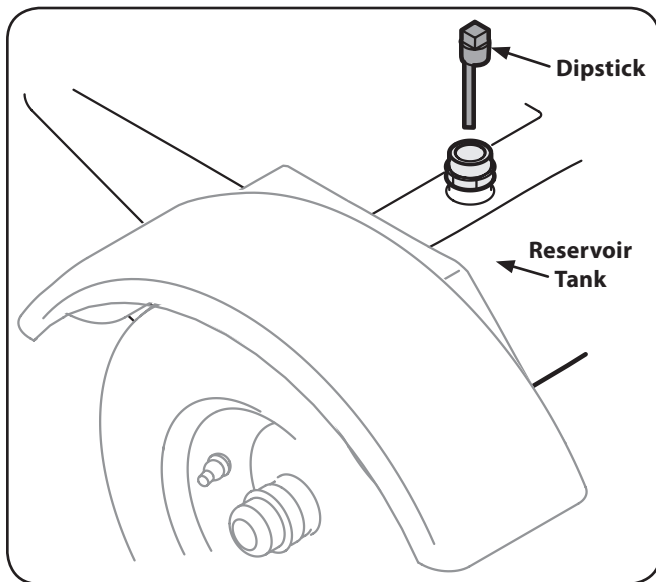

Figure 3-9
2. Remove the vented reservoir dipstick, which is located in front of the engine on top of the reservoir tank. See Figure 3-9
3. Check the fluid level using the dipstick. See Figure 3-9. Do not overfill.